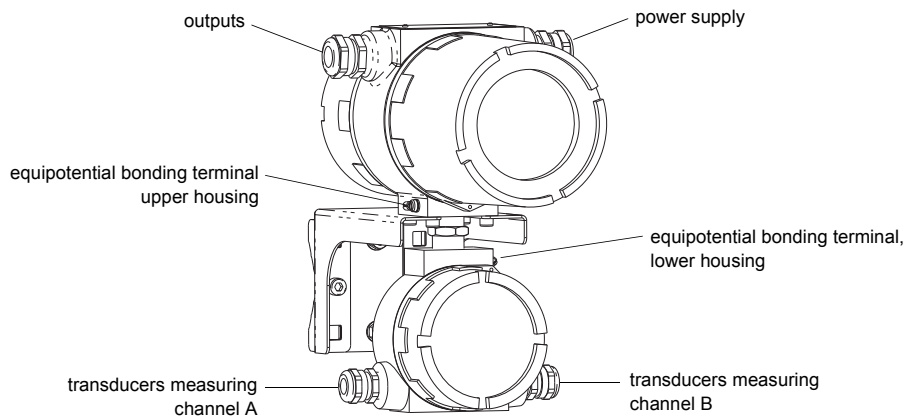

Fig. 6.2: Connections of the Transmitter
- Remove the cable gland for the connection of the transducers (see Fig. 6.2).
The external protective earth is connected to the equipotential bonding terminals of the upper and lower housing of the transmitter (see Fig. 6.2).